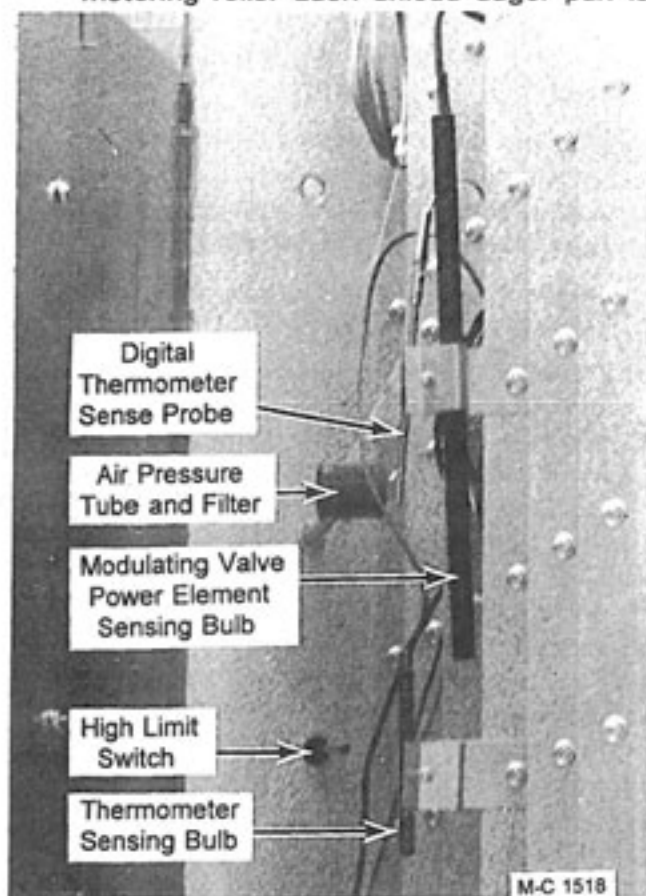
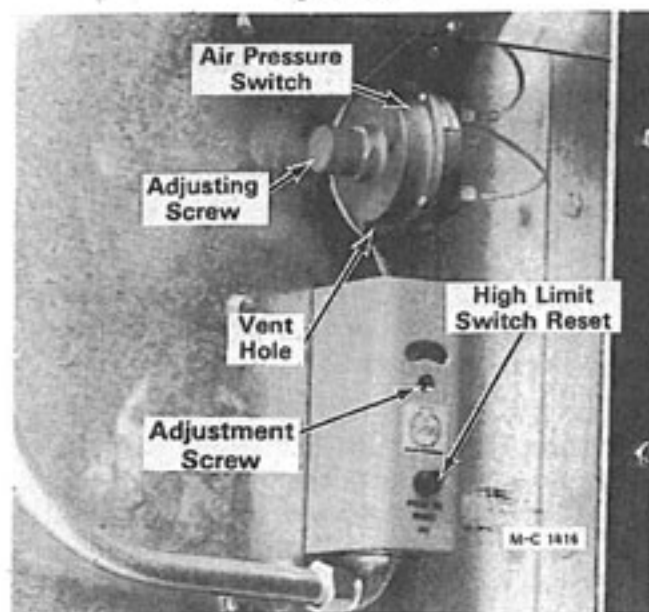

Figure 31
Figure 32
6. Remove the air pressure switches and clean the tube and filter, see Figure 31. Be sure the $\frac{1}{8}$ " vent hole in the bottom of the air pressure switch is open, see Figure 32.